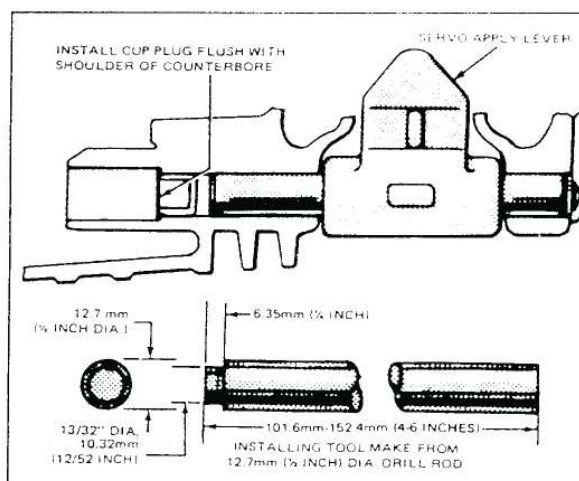

FIG. 33 Servo Apply Lever Installation
- Working from inside of the transmission case, carefully drive on the servo apply lever shaft to remove the cup plug. The shaft (Fig. 33) can be withdrawn from the case by hand.
- Using the fabricated tool shown in Fig. 33, drive the cup plug into position in the case. Be sure the plug is flush with the shoulder of the counterbore. The cup plug may be coated with Threadlock and Sealer, EOAZ-19554-AA (ESE-M4G204-A) or equivalent, before installation.